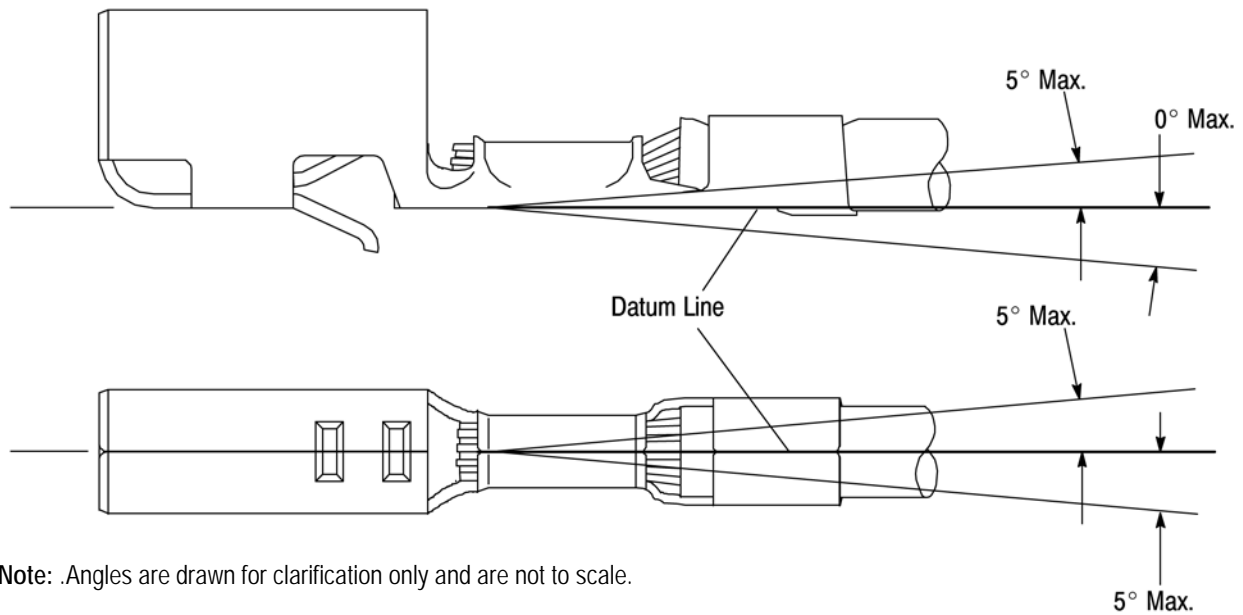

Figure 4
- 1) **Up and Down** -- The crimped contact, including cutoff tab and burr, shall not be bent above or below the datum line more than the amount shown in Figure 4.
- 2) **Side to Side** -- The side-to-side bending of the contact may not exceed the limits provided in Figure 4.